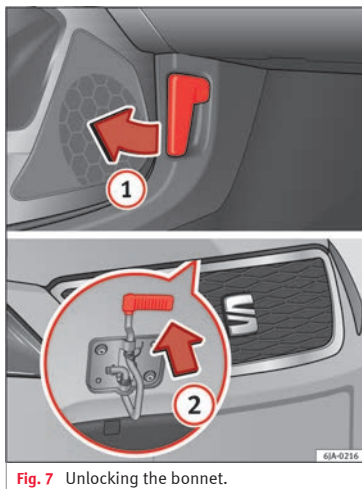

Fig. 7 Unlocking the bonnet.
- Opening the bonnet: Pull the lever under the dashboard » **Fig. 7 ①**.
- Lifting up the bonnet: press the release catch under the bonnet upwards » **Fig. 7 ②**. The arrester hook under the bonnet is released.